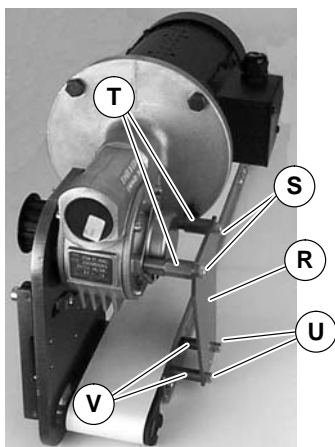

Figure 13
- 6a. Install hex posts (T of Figure 13). Attach wide end of support plate (R) to hex posts with screws (S). Attach narrow end of support plate to conveyor, using spacers (V) and screws (U). Tighten screws to 80 in-lb (9 Nm).